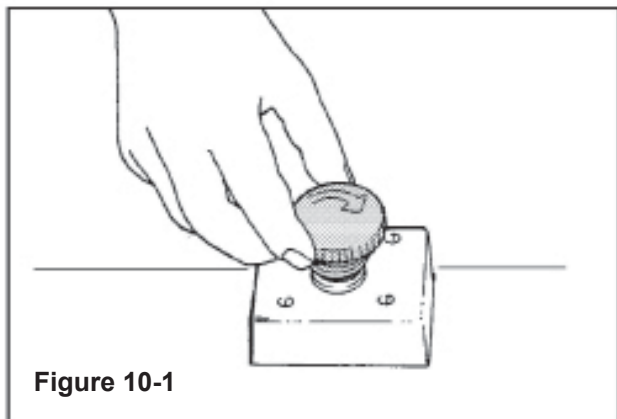

Figure 10-1
The machine electrical supply can be turned off by pressing the latching emergency stop switch. To restart machine, rotate the emergency stop switch clockwise to release the switch latch (**Figure 10-1**). Plug machine electrical cord into outlet and restart machine by pushing the On/Off switch to the On (I) position.